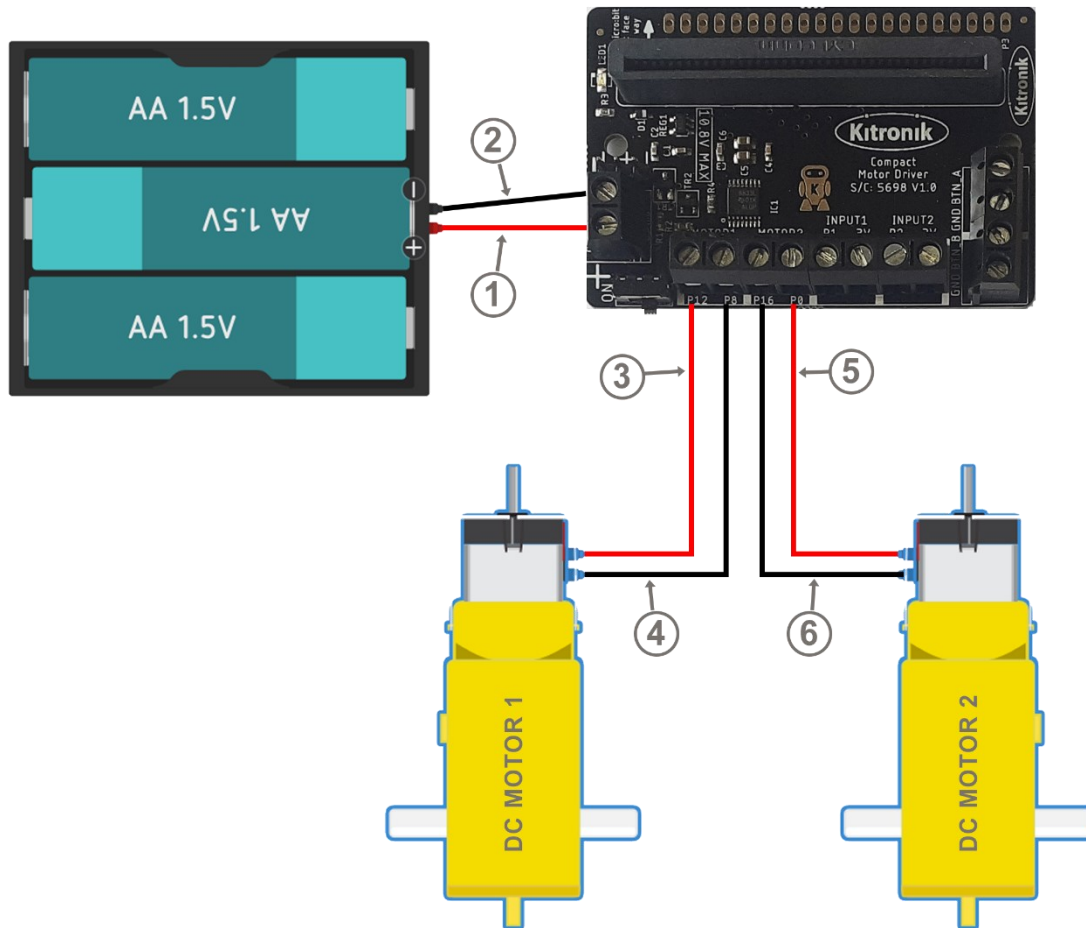

Figure 19: The basic circuit of the robotic car
Figures 19, 20 and 21 show a diagram and some indicative pictures of the circuit. To connect the battery holder to the Compact motor driver you need to: connect the power (+) of the battery holder to the power terminal of the motor driver (1) and the ground (-) to the ground of the motor driver (2). For this purpose, you will need a small screwdriver in order to loosen and tighten the respective connectors. Then you need to connect the two DC gear motors to the Compact motor driver. Again, by using a small screwdriver connect one of the pins of DC motor 1 to the P12 terminal (3) and the other to the P8 terminal (4). Repeat the same process for DC motor 2 by connecting one pin to P0 terminal (5) and the other to P16 terminal (6).